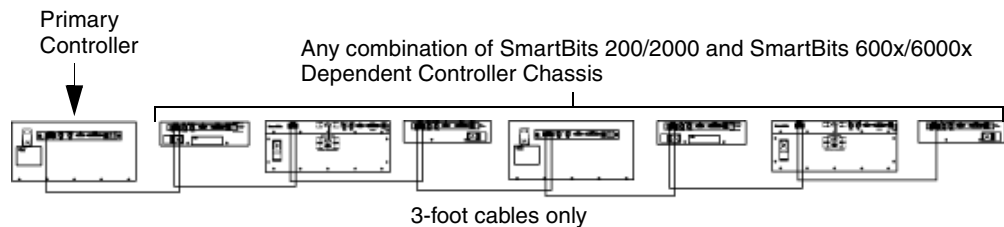

Figure A-3. Example of a Multiple Chassis Expansion Connection
An *expansion* connection involves any combination of SmartBits chassis connected horizontally, via the RJ-45 expansion connectors using a straight-through Ethernet LAN cable. You may connect up to eight chassis (one *primary controller* and seven *dependent controller* chassis). This allows for multiple chassis test synchronization with one clock source (*primary controller*), which supplies the synchronization in the system. Figure A-3 shows an example of an *expansion* connection.
- 2 Connect the remaining chassis in your system, (Category 5 UTP cables) not to exceed a total of eight chassis (one *primary controller* and seven *dependent controllers*). For an example, refer to Figure A-3 on page 89.